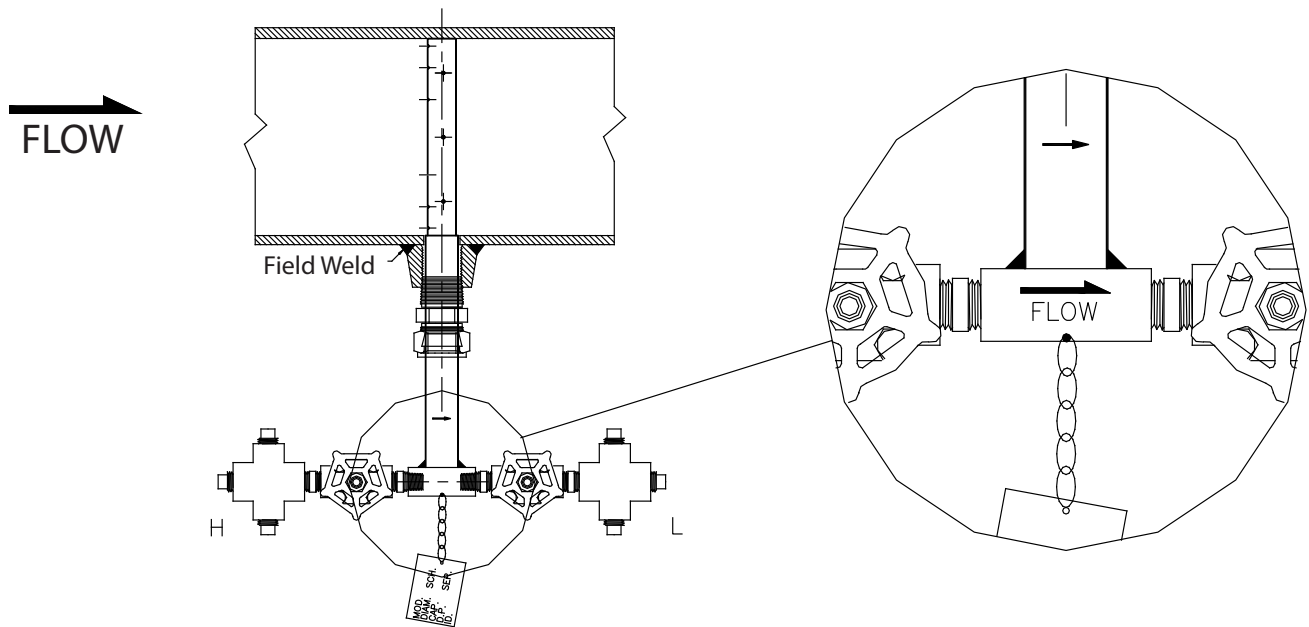

Figure 4: Sensor alignment
7. While holding the ASF Ellipse in its fully inserted position, align the arrow on the sensor head with the direction of flow. See Figure 4.